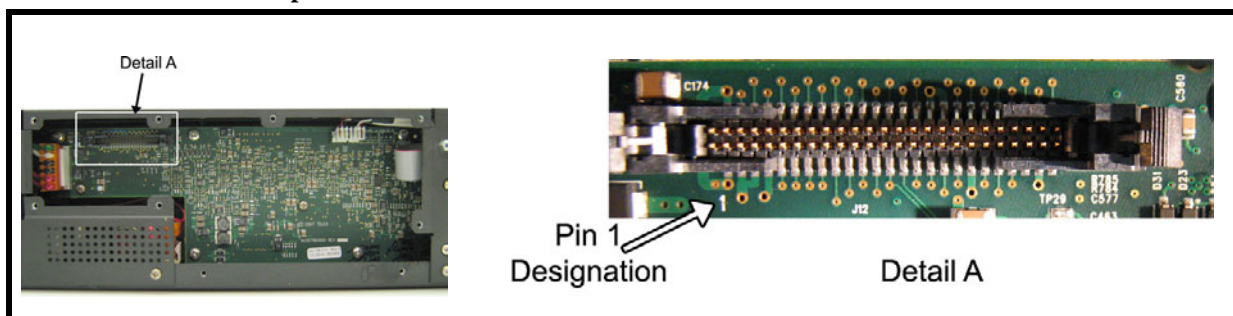
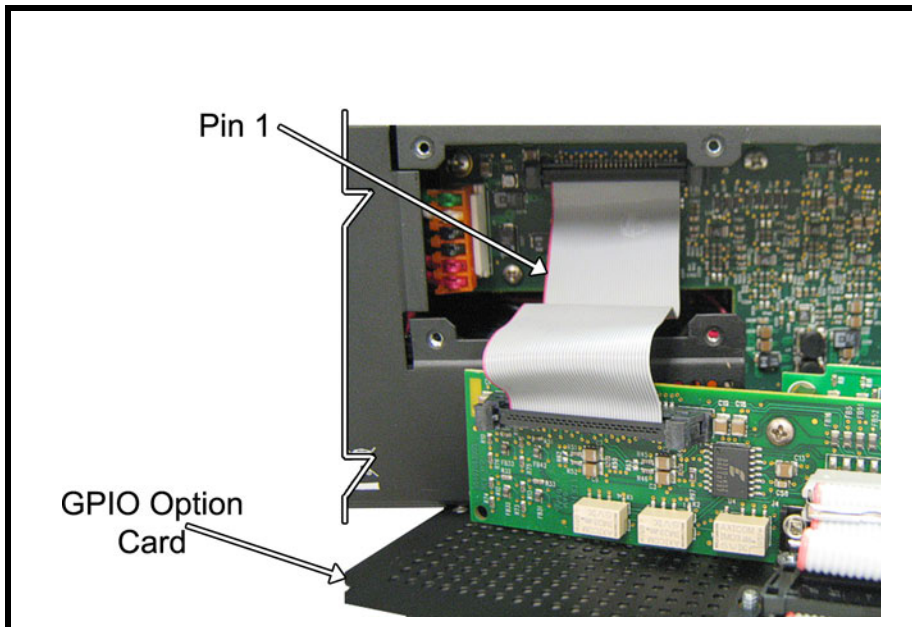

FIGURE 2. GPIO Connector on the KP 32 CLD board
FIGURE 3. GPIO Option Card connected to the KP 32 CLD
3. Connect the **GPIO Option Card** cable to the **GPIO connector** (see Figure 2) within the KP 32 CLD.
IMPORTANT: Connect Pin 1 (red wire) on the furthest left side of the connector as shown in Figure 3. Pin 1 is also designated by the 1 on the KP 32 CLD board, as seen in Figure 2, Detail A.